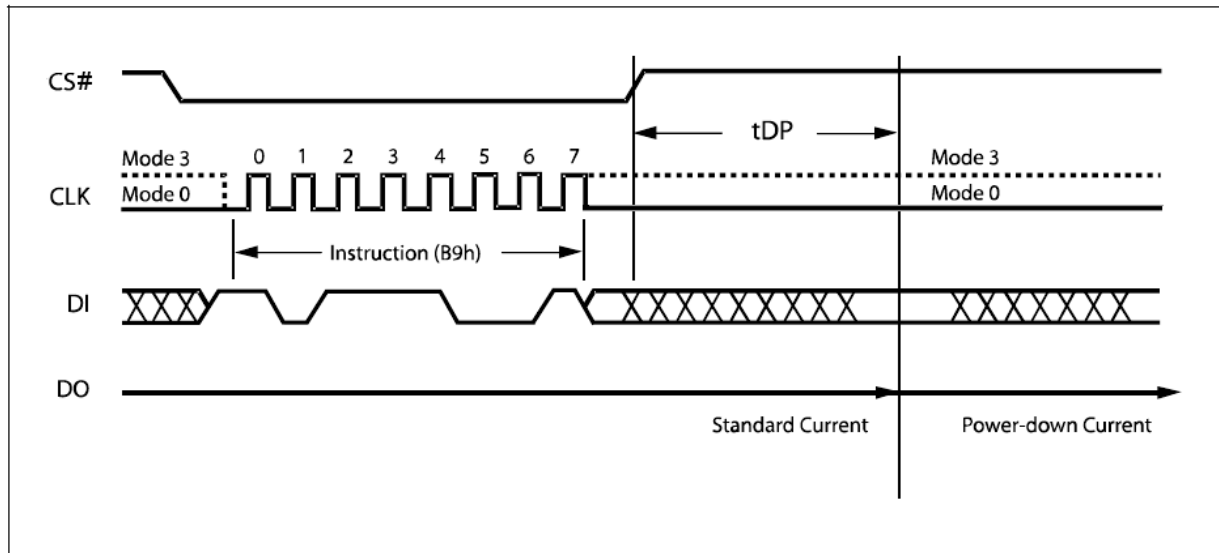

Figure 40. Deep Power-down Instruction Sequence Diagram
The instruction sequence is shown in Figure 40. Chip Select (CS#) must be driven High after the eighth bit of the instruction code has been latched in, otherwise the Deep Power-down (DP) instruction is not executed. As soon as Chip Select (CS#) is driven High, it requires a delay of  $t_{DP}$  before the supply current is reduced to  $I_{CC2}$  and the Deep Power-down mode is entered.